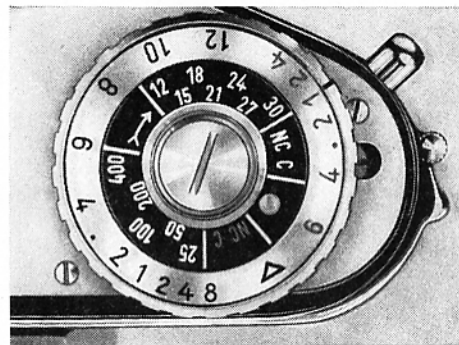

Fig. 26
In order to check that the film is being advanced correctly, observe the indicator disc (20): the disc with its red mark will rotate when the spool of the feed cassette is turning. Immediately after loading the film, set the film-type reminder disc (19) so that you do not forget what type of film is in the camera (Fig. 26). Turn the reminder disc in the direction of the arrow until the appropriate reference is opposite the black triangular mark on the shutter-speed setting knob (18). Use the figures from 12 to 30 for black-and-white films rated in DIN values, the figures from 25 to 400 for black-and-white ASA ratings, the black letters for daylight-type colour films (C = reversal film, NC for negative films) and the red letters for artificial-light colour films (as before, C = reversal, NC = negative). The example shown in Fig. 26 illustrates the correct setting for a negative colour film intended for use by artificial light.